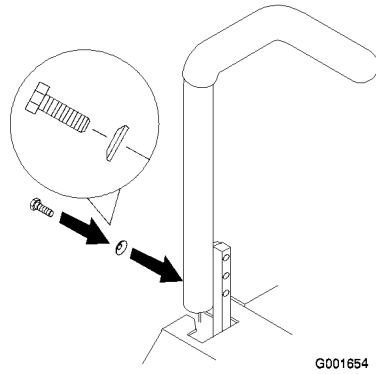

Figure 46
3. Loosen the bolts and curved washers installed in the levers (Figure 46).